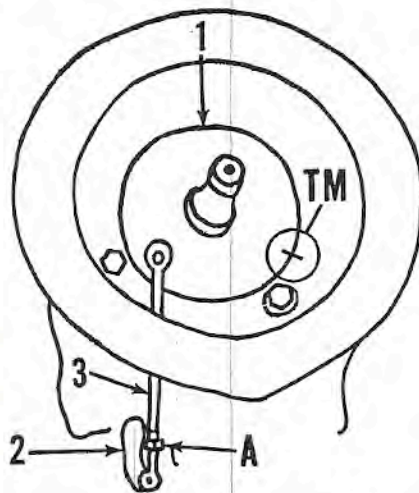

Fig. WB81 — Breaker plate timing marks (TM) should be aligned when link (3) and upper tower arm (2) are parallel as shown. Adjust with the adjusting yoke (A).
Maximum advance of ignition system is 36°, and occurs at cruising range. At full throttle, the ignition is retarded 4° from maximum advance. To check the ignition advance, remove the flywheel and refer to Fig. WB81. Rotate the lower shaft counter-clockwise until upper tower arm (2) and breaker plate link (3) are parallel. At this time, the timing marks (TM) on breaker plate and stator housing should be aligned as shown. If they are not, shorten or lengthen the breaker plate link (3).